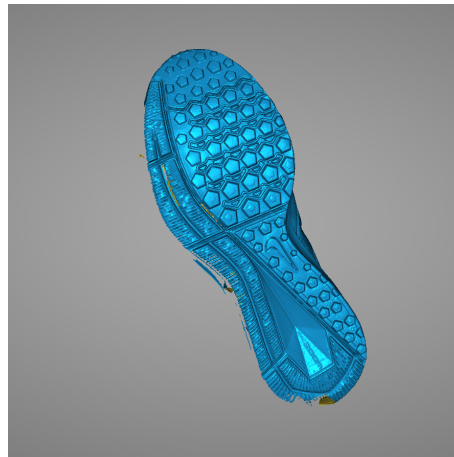

Figure 28: Final Model
21. After the final model has been generated (Figure 28), save it to the correct location as an STL file.